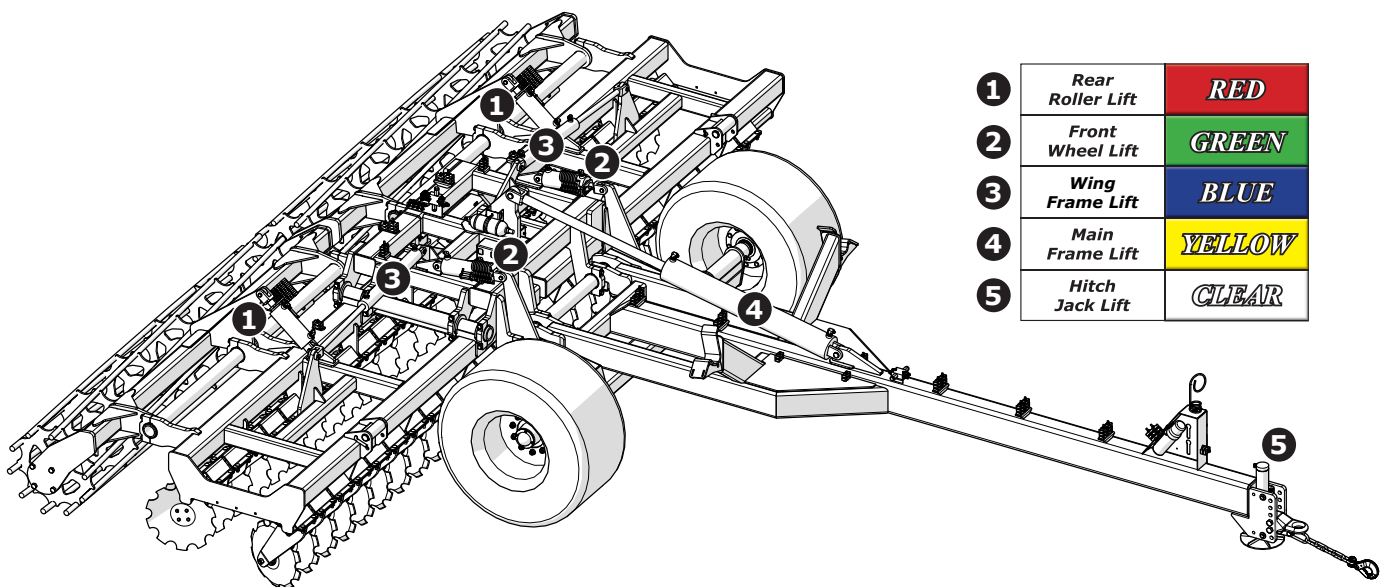
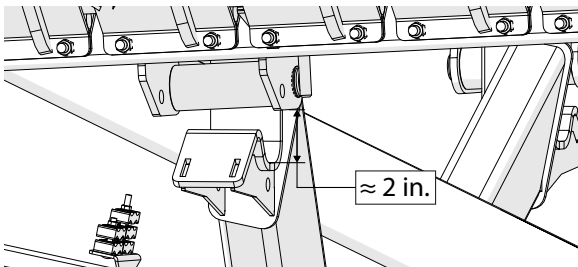

Figure 4. Hydraulic Cylinder Locations
Figure 6. Wing Transport Pin Location
3. Slightly raise the transport cylinders (**#4**) (**Figure 4**) to remove the pressure from the wings from the transport rest (**Figure 6**). Do not fully extend the cylinders at this point.